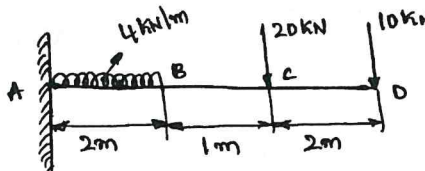

Fig.Q7(b)
- b. Find the slope and deflection at the free end of the cantilever shown in Fig.Q7(b).  $E = 200 \text{ KN/mm}^2$ ,  $I = 40 \times 10^6 \text{ mm}^4$ .